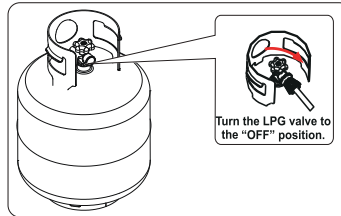

Fig 16
2. Turn Propane valve to the "OFF" position. (See fig 16)